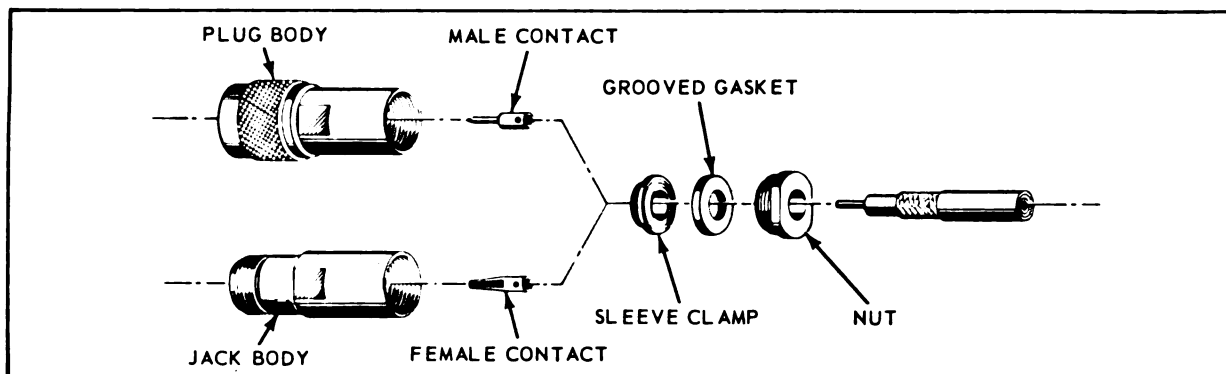

Figure 4-25. Improved N Connectors - Exploded View
a. Improved Version (See figure 4-25) - consists of a body assembled to coaxial cable with nut, grooved gasket and clamp. Plug UG-18D/U and Jack UG-20D/U are typical of this version. The sleeve clamp has a sharp rear face, which cuts into the grooved gasket when the nut is tightened.
c. Disassemble nut, gasket and sleeve clamp from plug or jack body. See figure 4-25.